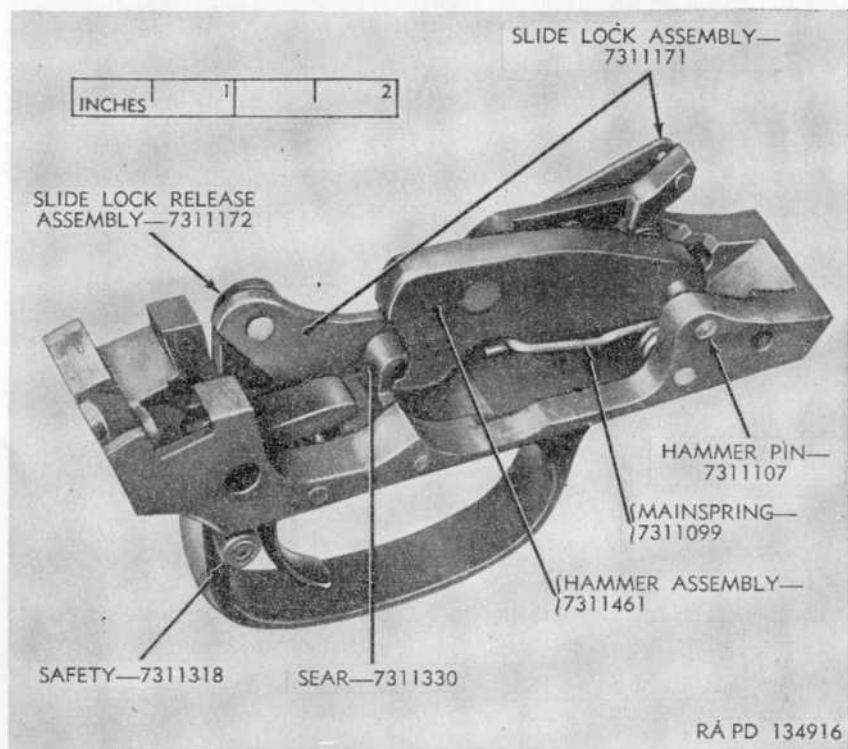

Figure 47. Trigger guard group for Stevens shotgun M620A.
(3) *Disassembly of trigger guard group for Stevens shotgun M620A (figs. 47 and 48).*
- (2) *Assembly of the trigger guard group of Stevens shotgun M620A (figs. 47 and 48).*